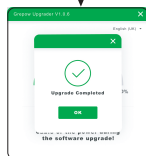

Figure 4: After the progress is displayed to 100%, if the verification is successful, the upgrade is successful, and this interface will pop up.
- * When the external discharge is working, click the "Confirm" button to enter the interface shown in Figure 4 to adjust the working current;